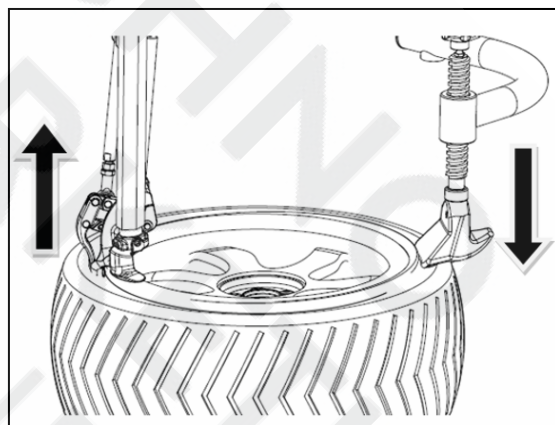

FIG31
- If the demounting hook cannot lift the tire lip because of the harder RSC tire during lifting the tire lip, can press the tire using assist arm. The pressing block can press down 40-80cm on the opposite side of the demounting head, which helps the demounting hook to lift the tire lip smoothly like FIG31.